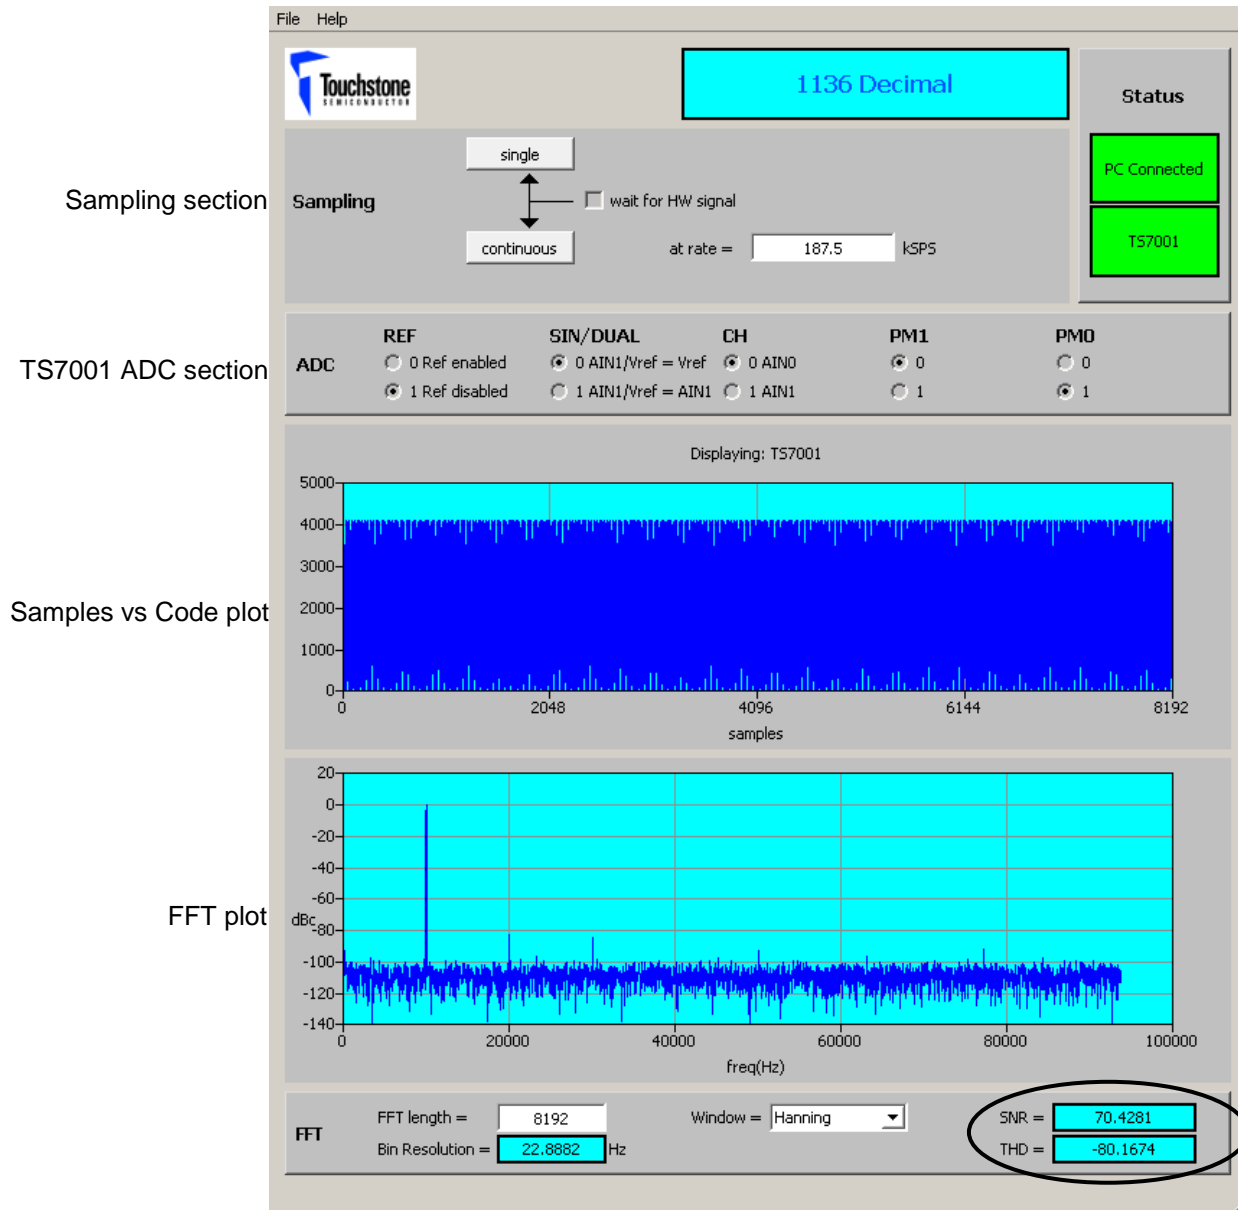

Figure 4. TS7001 Response with GUI
- 7) In the TS7001 ADC section, set $PM0 = 1$ and $REF = 1$. In the sampling section of the GUI, enter 187.5ksps. Use the default FFT length of 8192. Refer to Figure 4 and Table 2 and Table 3.
- 8) Turn on the signal generator. On the GUI screen, click on “continuous” in the sampling section, and monitor the results on the screen. The top plot shows a samples vs code plot and the bottom plot is an FFT plot. The SNR and THD values should be approximately 71dB and -80dB, respectively. Please refer to Figure 4 for an example of what the results should look like. In this case, the SNR and THD values are 70dB and -80dB, respectively.
- 9) As shown in the TS7001 ADC section of the GUI, the TS7001 mode of operation can be selected. Please refer to Figure 4 and Table 3.